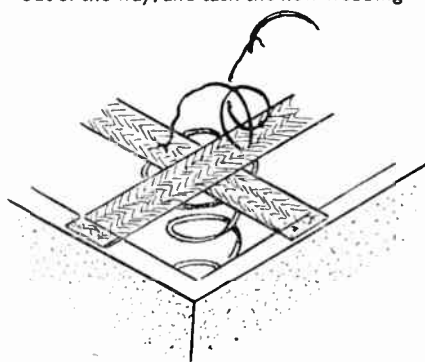

Fig. 3—Sewing the springs to the webbing
For the sewing job, a special half circle needle, like that shown at (B) will be required. With this, threaded with a long length of twine, push the point through the webbing, against the top ring of the spring, and bring it out through the webbing again, the opposite side of the spring. Here tie off, then, without cutting the twine, make two more stitches through spring and webbing, knotting each, and finally tie off and knot the last one. The detail sketch, Fig. 3, will help to explain this. The seat should then be reasonably shapely, and springy to sit upon.